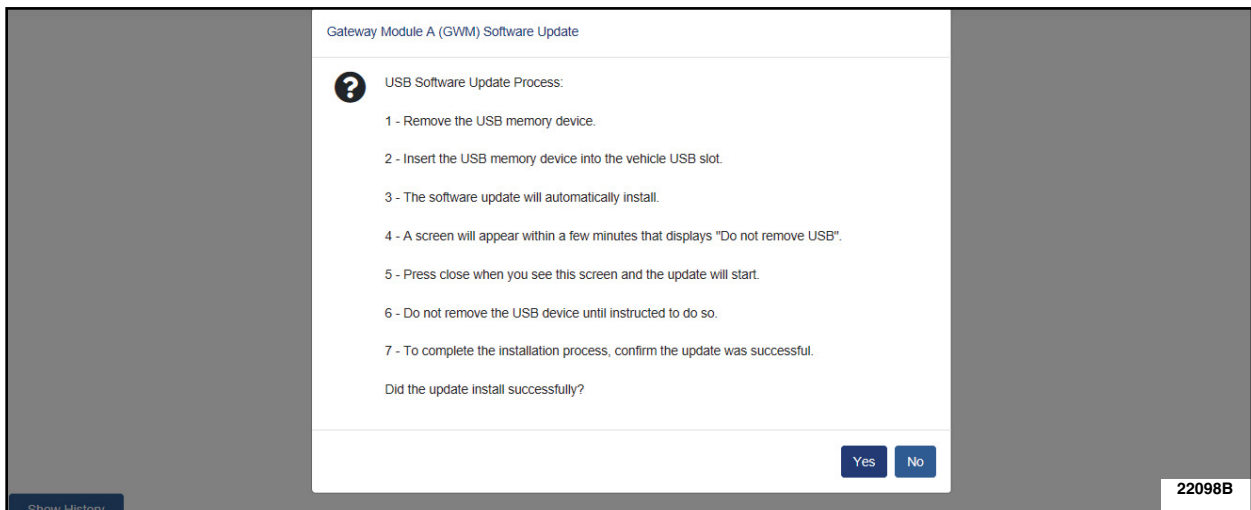

FIGURE 16
16. The update should start automatically. It is normal for the GWM to reset during this step. See Figure 16.